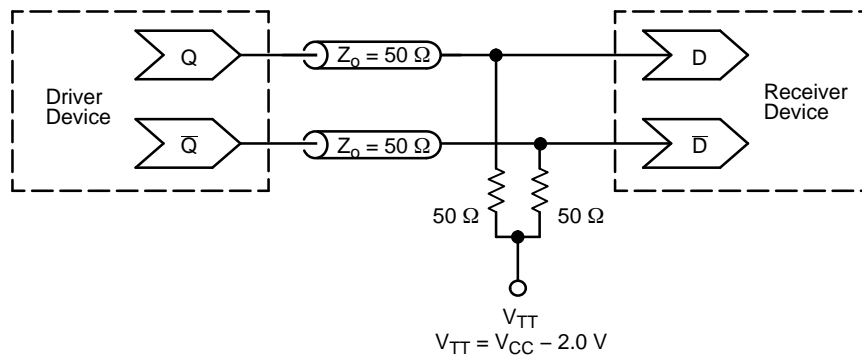

Figure 6. Typical Termination for Output Driver and Device Evaluation (See Application Note AND8020/D – Termination of ECL Logic Devices.)
- All outputs loaded with 50 Ω to $V_{CC} - 2.0\text{ V}$. See Figure 6.
12. All outputs loaded with $50\ \Omega$ to $V_{CC} - 2.0\text{ V}$. See Figure 6.
15. Measured with PECL 750 mV source, 50% duty cycle clock source. All outputs loaded with $50\ \Omega$ to $V_{CC} - 2.0\text{ V}$. See Figure 6.